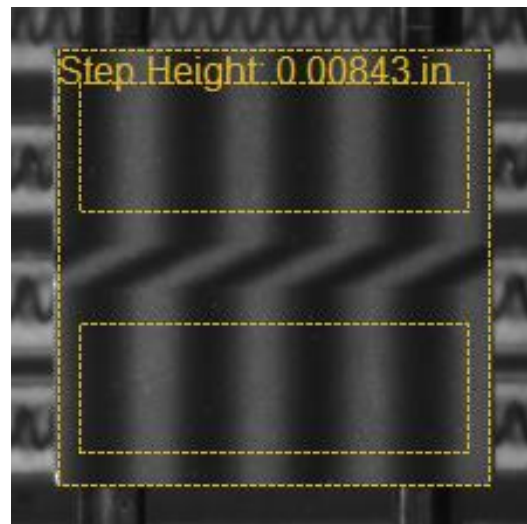

Figure 2.35 Fringe Value ROI on cal block
2. Adjust the ROI such that the outside square approximately outlines the calibration block (**Figure 2.35**). Exact alignment is not required because measurements are made only within the inner two rectangles, which are inset from the outside boundary.
Note: The calibration block step needs to run horizontally, or from left to right when looking down from the user's position at the machine, and the lower step should be closest to the user. The block should have some tilt with respect to the grating such that the fringes run diagonally, or vertically, as in **Figure 2.35**.